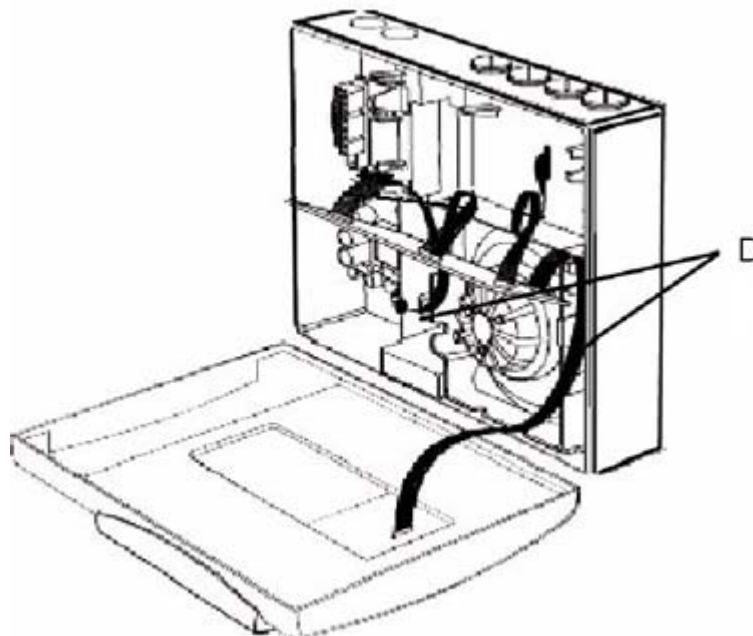

Figure 7-5: Removing data cables for VLP or VLS chassis replacement
5. Disconnect the data cables that connect the chassis assembly to the termination card. These include the front panel modules (if fitted) and manifold (behind chassis). Refer to Figure 7-5.
6. Unscrew the 2 recessed retaining screws (D) in the Figure 7-5 above.